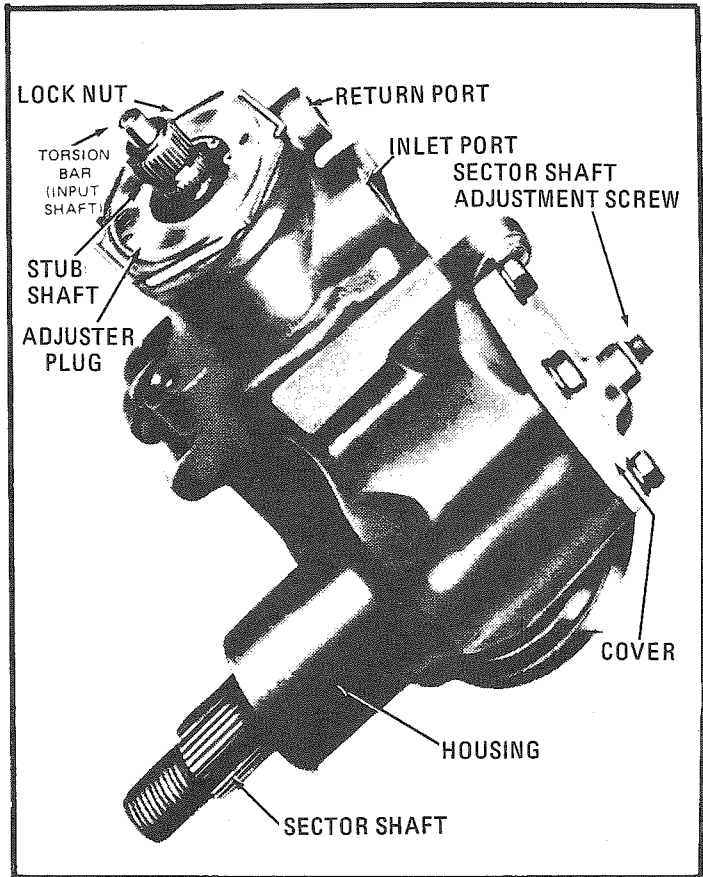

Figure 136 – Steering Gear
**POWER STEERING GEAR** – The Saginaw power steering unit (see figures 136 and 137) is a torsion-bar type of hydraulic-assisted system. The system furnishes power to reduce turning effort at the steering wheel. It also reduces road shock and vibrations.